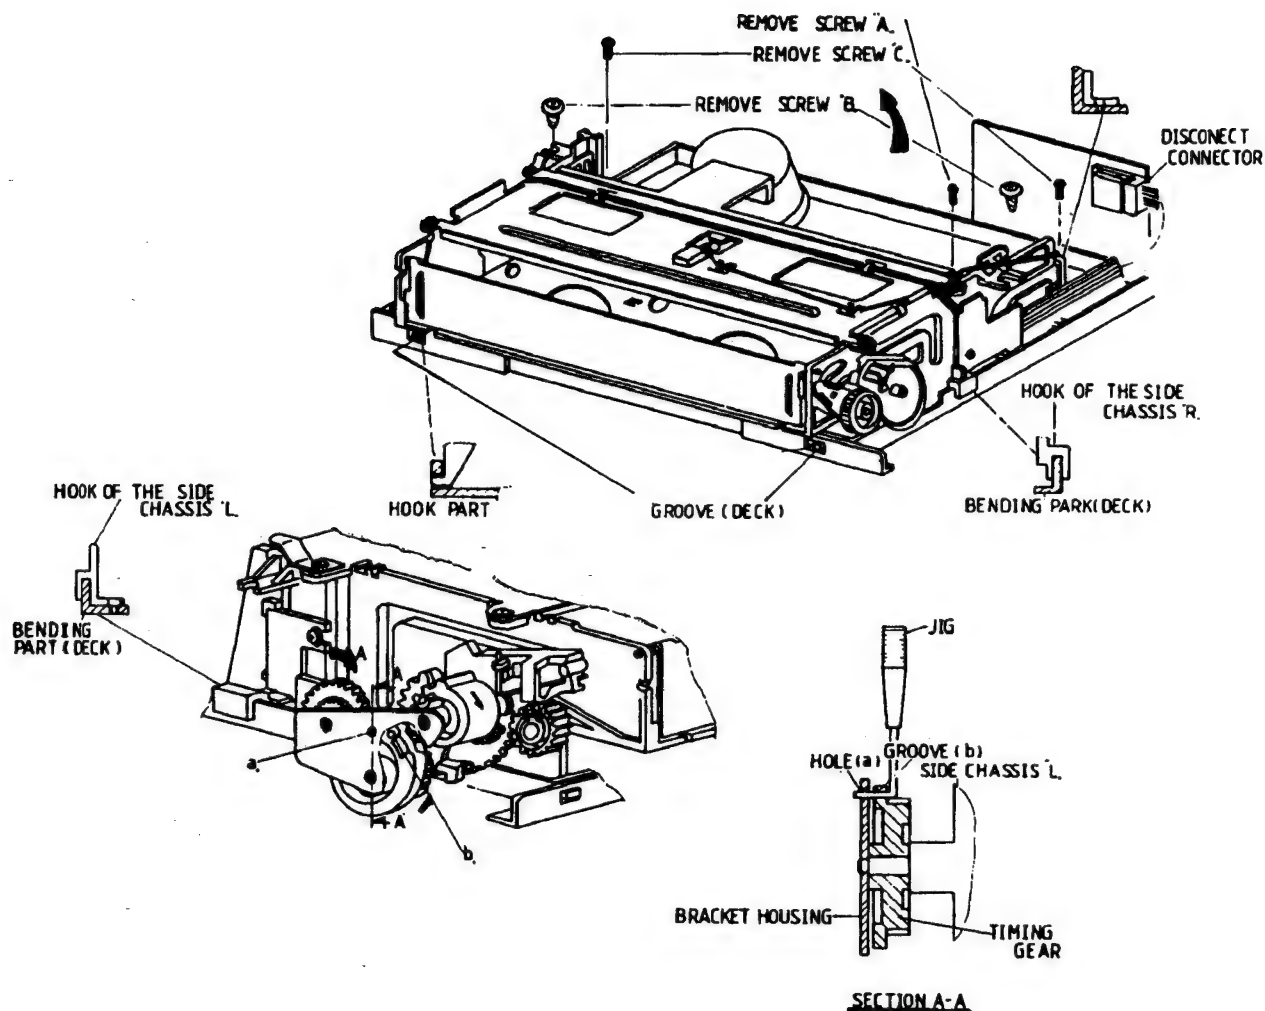

Fig.12
A) Assembling point is the point that the hole of the gear holder plate corresponds to the groove of the timing gear as in Fig 12/A-A'.